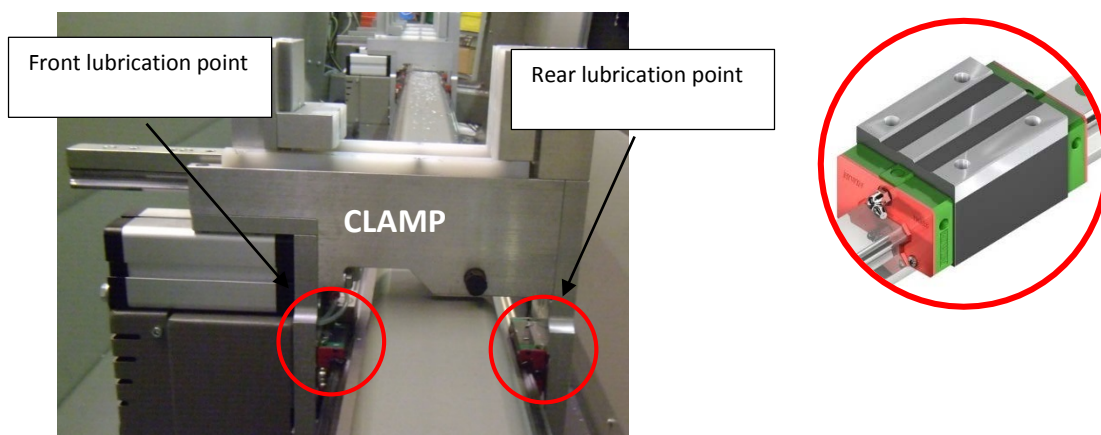

Fig. 69
4. From the front of the machine, lubricate the ball runner blocks located on the right edge of each clamp (Fig. 69).